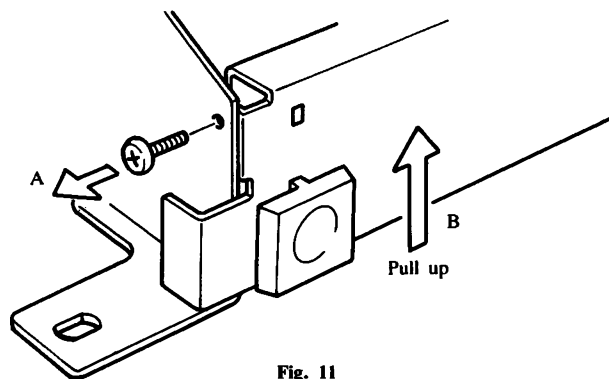

Fig. 11
- (2) Remove the 2 screws (+- screw 3×8) of the Control panel. (A in Fig. 11)